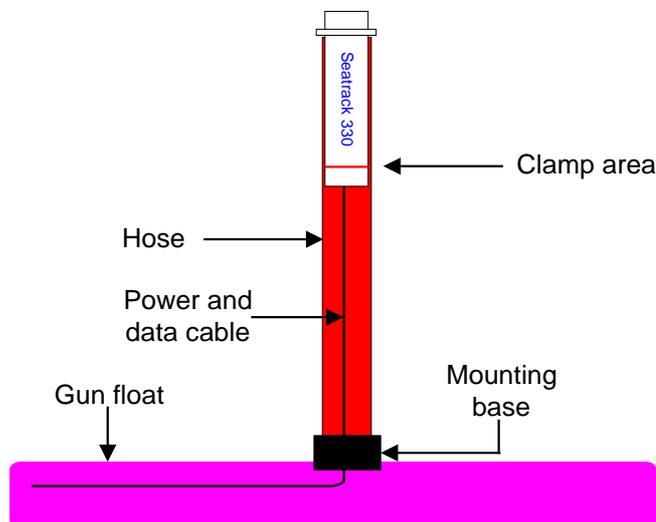

Figure 8 Seatrack 330 installation
6. After configuration, disconnect power and the HHT. Mount the unit in a hose or a suitable location where the satellite signals will not be obstructed, see Figure 8.
8. After configuration, disconnect power and the PC. Mount the unit in a hose or a suitable location where the satellite signals will not be obstructed, see Figure 8.
4. After configuration, if necessary, disconnect power and the serial line to the VCU. Mount the unit in a hose or a suitable location where the satellite signals will not be obstructed, see Figure 8.